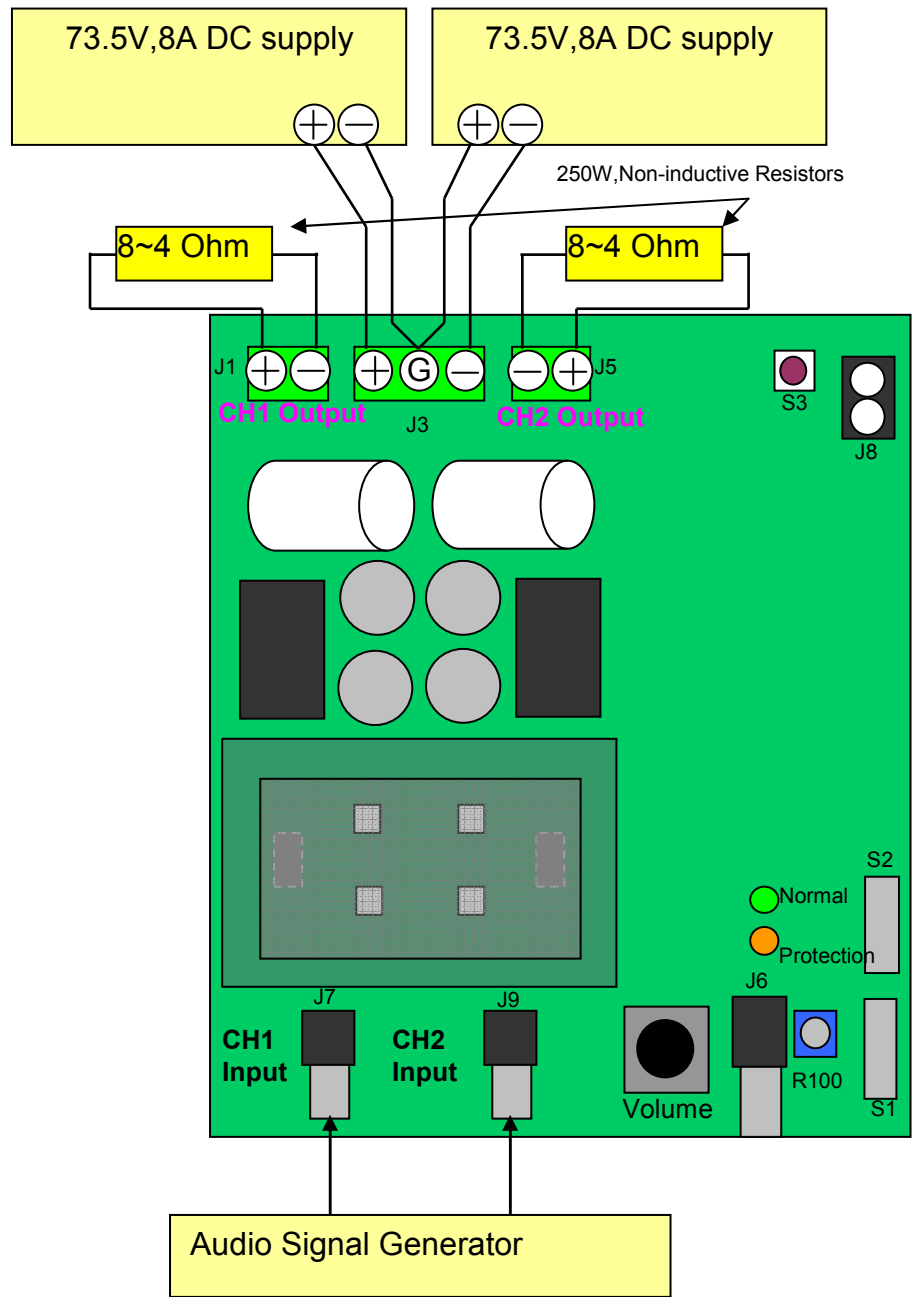

Fig 1 Typical Test Setup
1. Connect 8 $\Omega$ -250 W dummy loads to output connectors (J1 and J5 as shown on Fig 1) and parallel it with input of Audio Precision analyzer (AP).
2. Connect the Audio Signal Generator to J7 and J9 for CH1 and CH2 respectively (AP).
7. Connect the dual power supply to J3. as shown on Fig 1